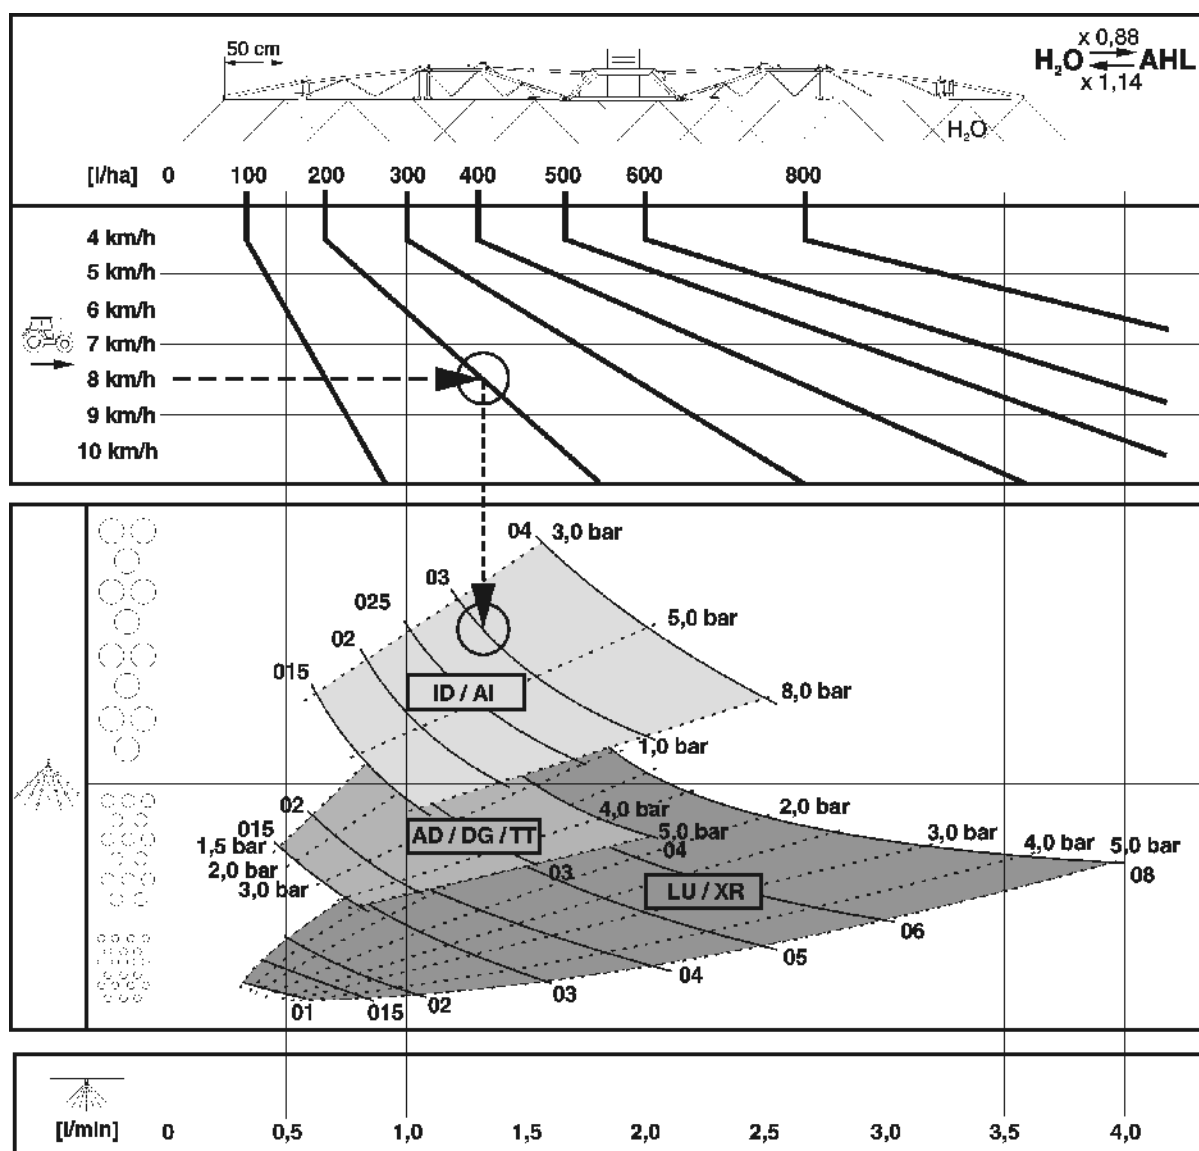

Fig. 155
- Fig. 155 is for selecting the correct nozzle type. The nozzle type is determined by